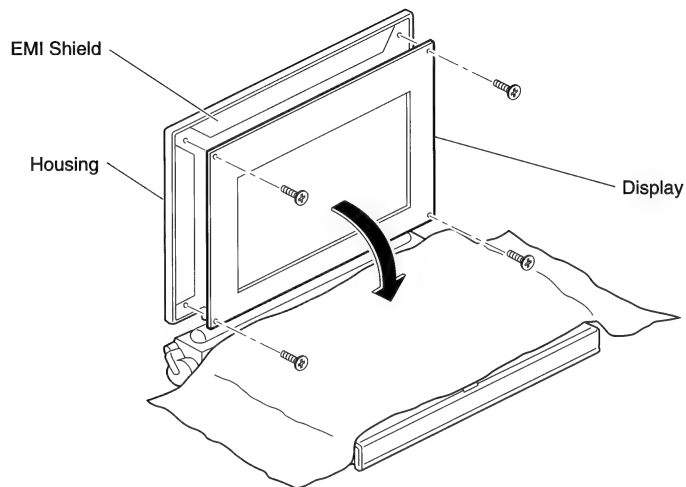

Figure 8 Removing the Display
- a. Cover the keyboard with a clean cloth or sheet or paper (Figure 8).